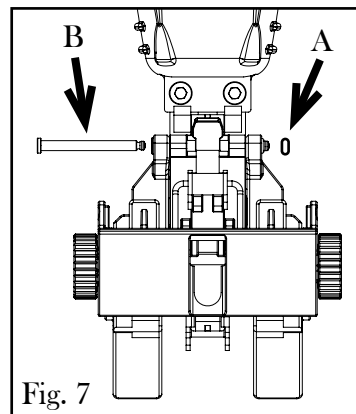

Fig. 7
2. Remove the O-Ring on the pin (Fig. 7 - A). Tweezers or a small flathead screwdriver are the best ways of removing the O-Ring from the pin.
3. Remove the pin from the floor shoe (Fig. 7 - B).
2. Attach the flooring shoe in place using the pin and O-Ring (Fig. 7).